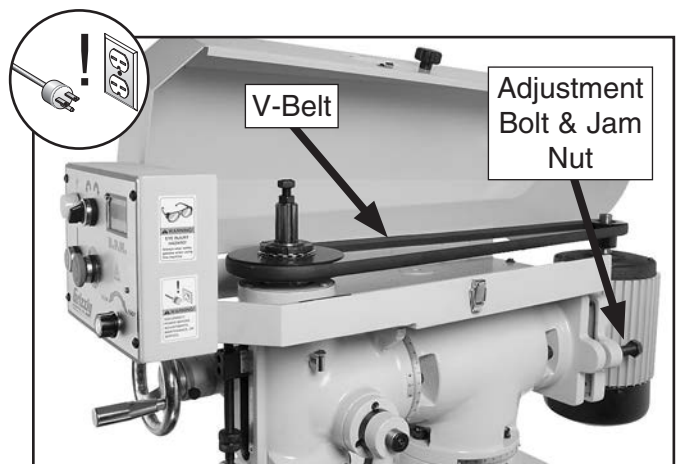

Figure 41. V-belt tension adjustment bolt.
2. Lift the V-belt cover, then loosen the adjustment bolt jam nut near the motor (see **Figure 41**).